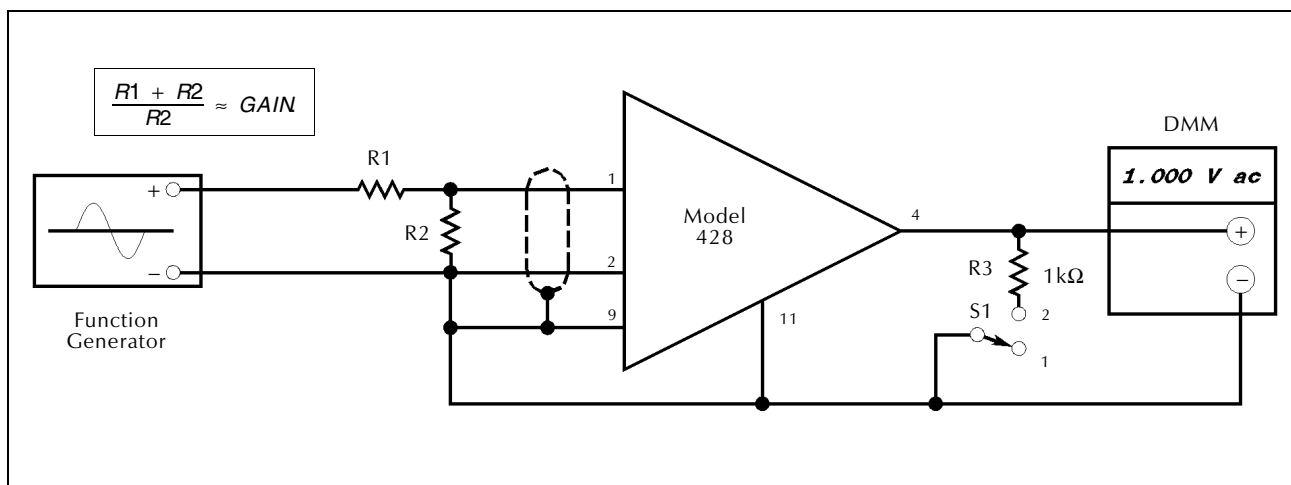

Figure 5-6
1. Connect the Model 428 as is shown in Figure 5-6. For R1, R2, and R3 use either metal-film or carbon-film or carbon-composition resistors. R2 should not be less than 100 Ω . Install a 1-k Ω 1/4-watt resistor for R3.